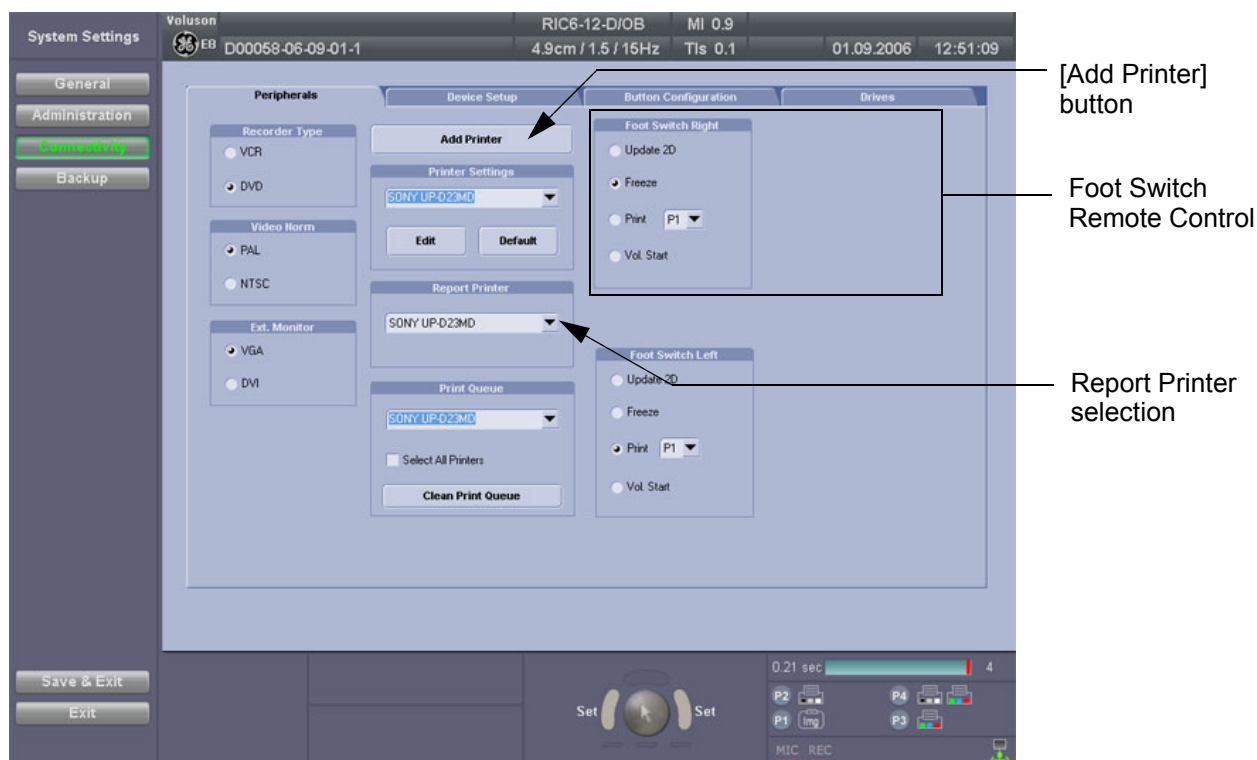

Figure 3-54 System Setup - Connectivity - PERIPHERALS page
- 4.) Click the **ADD PRINTER** button (see: Figure 3-54 above). Please read the displayed message carefully and click **YES** if you have skills to do this.
(refer to: Figure 3-54: System Setup - Connectivity - PERIPHERALS page on page 3-57)